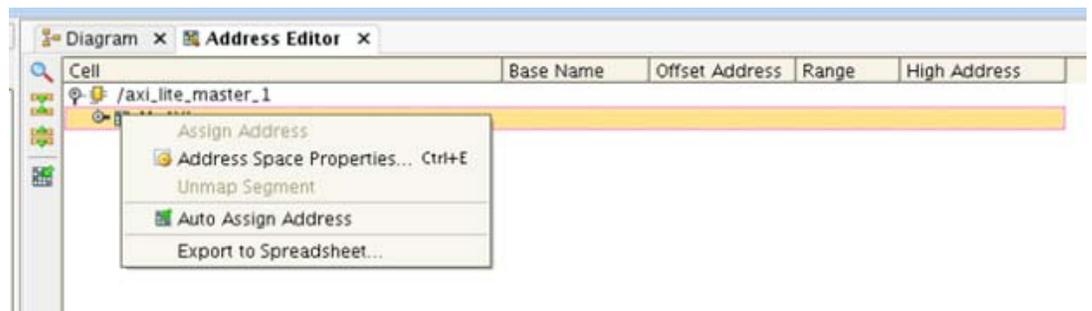

Figure 37: Address Editor Selecting Auto Assign Address for axi_lite_master
14. Select M_AXI, right-click and select **Auto Assign Address** (Figure 37). This chooses an AXI address for the axi_lite_slave.